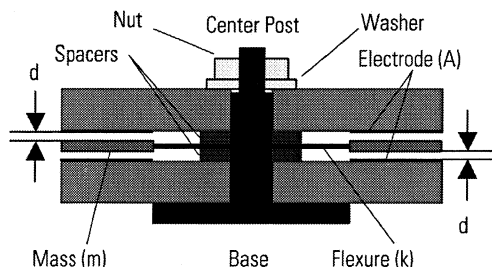
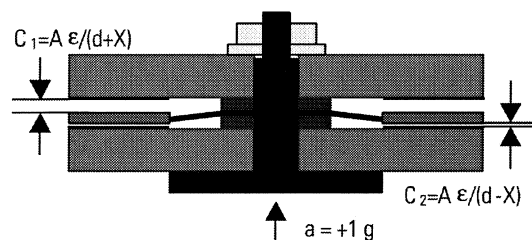
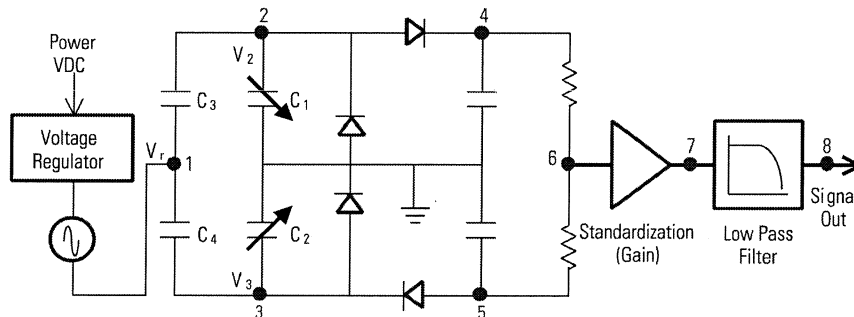
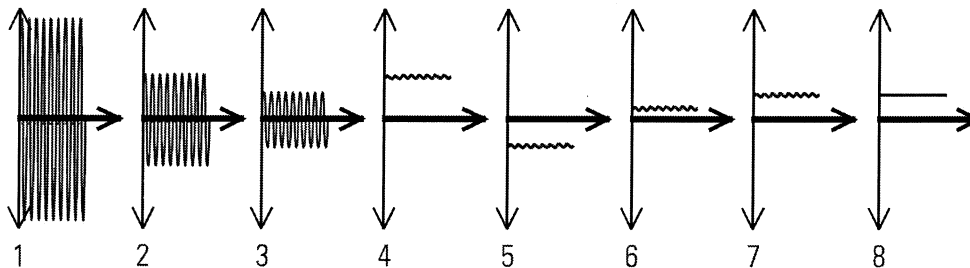

Figure 1a: Sensing Element in "0 g" Condition
Figure 1b: Sensing Element in "+1g" Condition
Figure 2a Circuit Schematic
Figure 2b: Response from Circuit from +1g Static Acceleration (x-axis = time and y-axis = voltage)
In Series 3700 Variable Capacitance Accelerometers, the sensing mechanism consists of a "washer-shaped," seismic mass (m) suspended by a proprietary flexure with stiffness (k). This assembly is sandwiched between two circular plates with an electrode area (A), whose distance (d) is closely controlled with precision chemically etched spacers. The resulting air-gap between each electrode and the sensing flexure forms a "mechanical capacitor". A cross-sectional drawing of this sensing element under a "0 g" condition is depicted in Figure 1a. Figure 1b depicts a "+1 g" condition as may be experienced by the sensor as it rests in the Earth's Gravitational Field.
As shown in Figure 1b, when the element is accelerated (a), an inertial force (F) is created on the mass (m) according to Newton's Second Law of Motion.
The built-in microelectronics contains a capacitive bridge circuit that converts this change in capacitance to a useful voltage signal. A simplified schematic of the circuit is shown in Figure 2a. The theoretical response from the +1g acceleration shown in Figure 1b is depicted by the time traces shown in Figure 2b. The numbers 1 through 8 on Figure 2b correspond to the signals at locations 1 through 8 on Figure 2a. For example, if the signal from location 2 were viewed on an oscilloscope, it would look like the signal shown in graph 2 of Figure 2b.
It would be sufficient to complete the circuit at this point, however, a couple additional features are included to enhance the performance of the sensor. First is the addition of a “standardization” amplifier. This is used to “trim” the range of the sensor to a convenient number such as 3g, 20g, 50g or 200g. For example, the amplifier in Figure 2a is used to gain the signal by a factor of 2. In other words, the voltage at Location 7 is twice as large as it is at Location 6. Second, a low-pass electrical filter is used to reduce unwanted signals from high frequency vibration and eliminate any residual affects of the oscillator frequency.